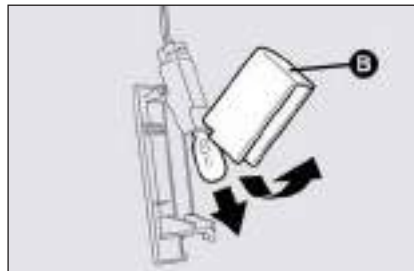

fig. 42
- open the protection **B-fig. 42** and replace the snap-fitted bulb;
- re-close the protective cover **B-fig. 42** on the transparent;